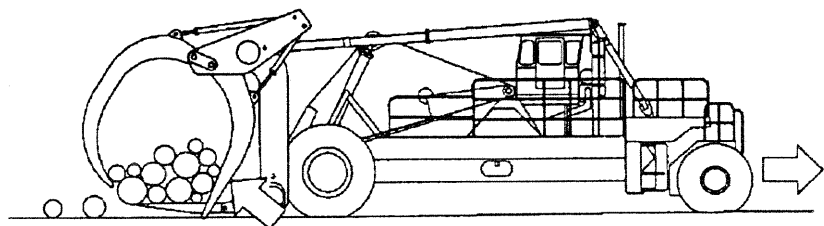

Fig 4-9
2. While backing the machine, slowly open the holddown arms and gradually push the load forward with the kickoff arms. This way, the logs can be dropped individually rather than all at once. See Fig. 4-9.
3. If several logs fall off at once and form a pile, stop the machine, tilt the carriage forward, and using the holddown arms, rake the top logs back into the carriage. See Fig. 4-9.